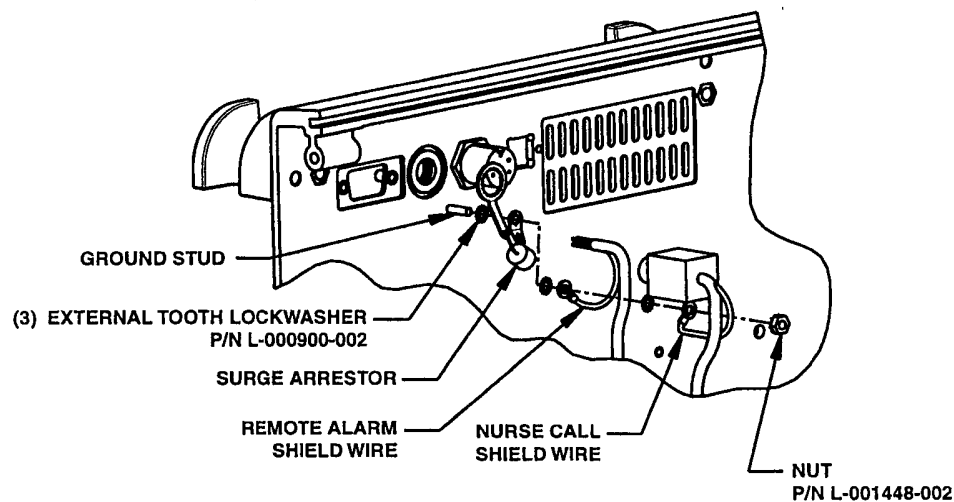

FIGURE 4-39.
1. Install the following, in the order listed, over the threaded ground stud located below the remote alarm jack. See Figure 4-39.